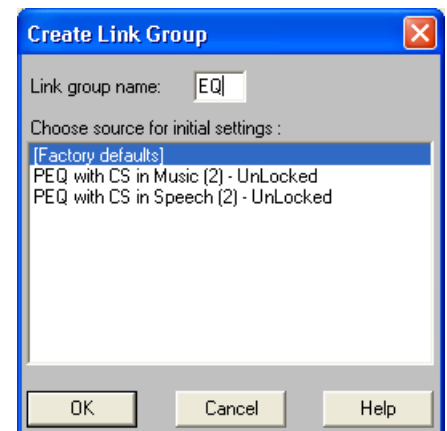

FIGURE 3-4: “Create Link Group” Dialog
3. The “Create Link Group” dialog appears, as pictured to the right in Figure 3-4.